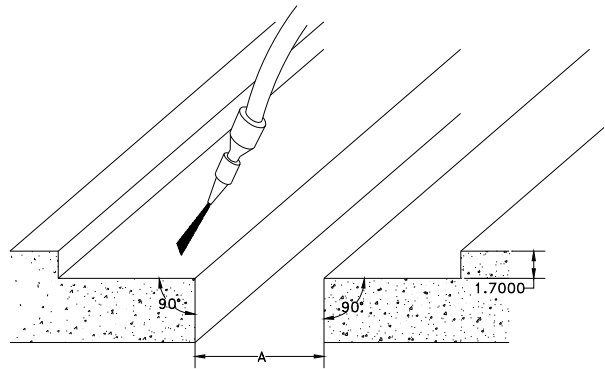

Figure 4
G. The blockout should be sandblasted to remove laitance, loosely bonded material and any other contaminant, which may inhibit bonding of the system to the concrete (Figure 4). Should sandblasting not be feasible, the surfaces must be ground with a coarse wheel disc grinder to produce an abraded surface. Take care not to polish the concrete surface, as this can lessen adhesion. After sandblasting or abrading, blow out the area with an air compressor fitted with an oil trap.